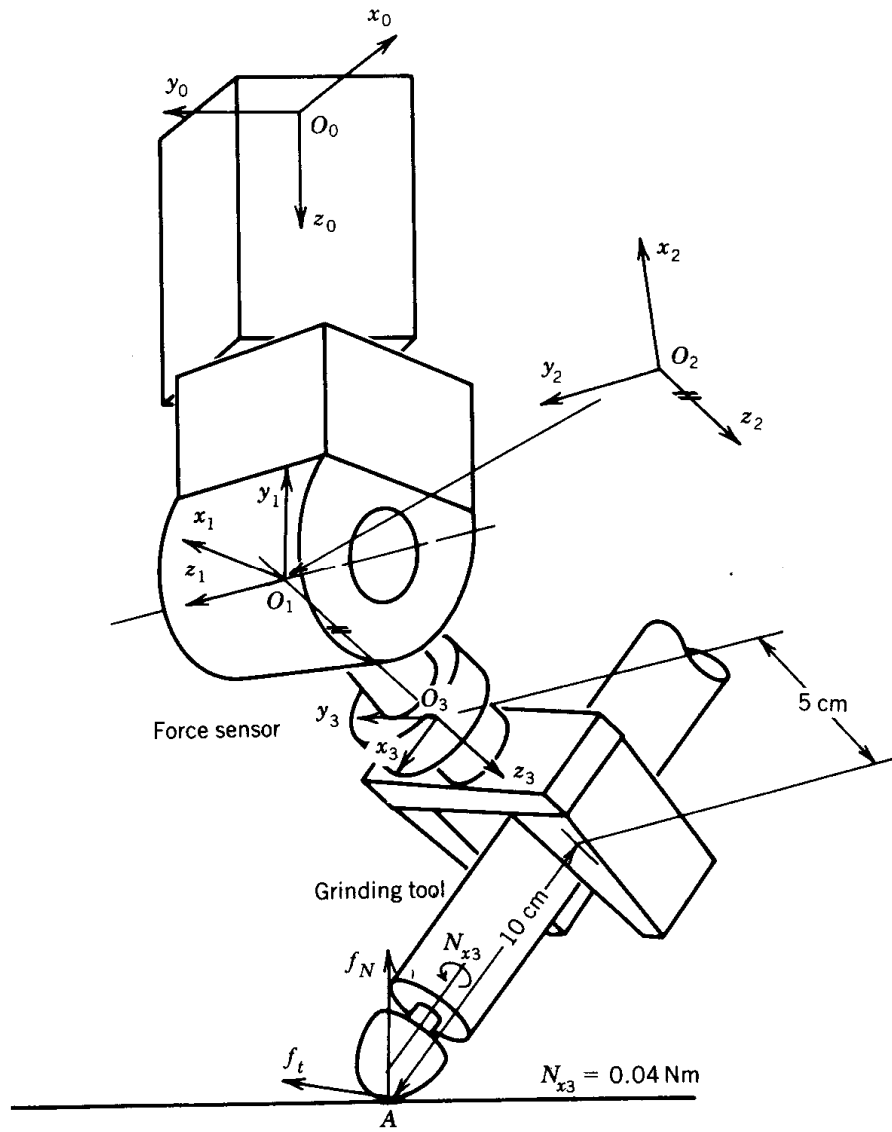

Figure 3. Wrist joints of PUMA with grinding tool
4. Figure 3 shows the three wrist joints of a PUMA 600. The kinematic configuration of the wrist joints is defined in Table 1, with reference to the coordinate frames shown in Figure 3.